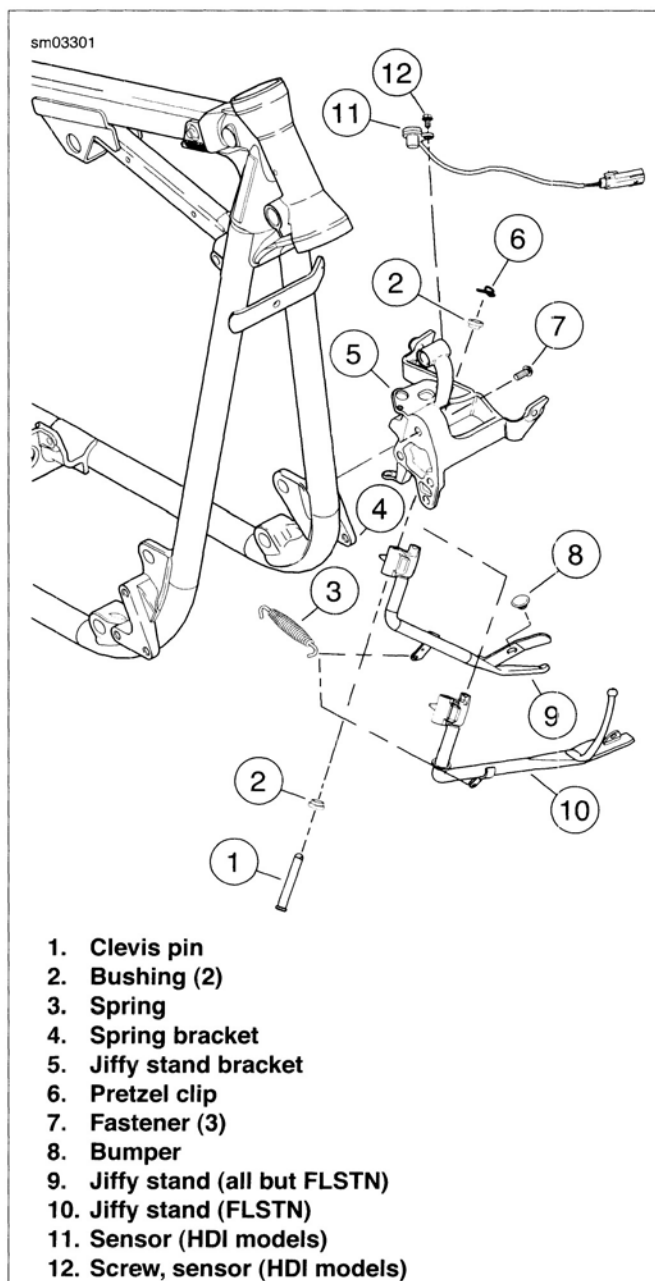

Figure 2-121. Jiffy Stand
2. See Figure 2-121. Inspect clevis pin (1) and bushings (2). If covered with dirt, wipe dirt off with a shop towel and spray clevis pin and bushings with LUBRIPLATE 110.
1. See Figure 2-121. Make a note of harness routing for ease of assembly. Disconnect sensor connector located in the front electrical caddy.
3. Remove screw (12) and remove sensor (11).
4. Installation is in reverse of removal. Tighten screw (12) to 96-144 in-lbs (10.8-16.3 Nm).
2. See Figure 2-121. Remove the three fasteners (7) from jiffy stand bracket (5).
3. Detach spring (3) from jiffy stand and spring bracket (4).
4. Remove pretzel clip (6) from clevis pin (1).
5. Remove clevis pin and bushings (2) to free jiffy stand from jiffy stand bracket.
1. See Figure 2-121. Install bracket.
- a. Apply LUBRIPLATE 110 to clevis pin (1).
- c. Install lower bushing (2) on clevis pin (1).
- d. Install clevis pin (1) through jiffy stand (9, 10) and jiffy stand bracket (5).
- e. Place top bushing (2) on clevis pin (1).
- f. Install pretzel clip (6) in clevis pin (1).
- g. Attach spring (3) to jiffy stand (9,10) and spring bracket (4). When properly installed, hook on spring side connected to bracket faces upward.
- h. Install jiffy stand and bracket assembly with three fasteners (7). Tighten to 25-30 ft-lbs (33.9-40.7 Nm).